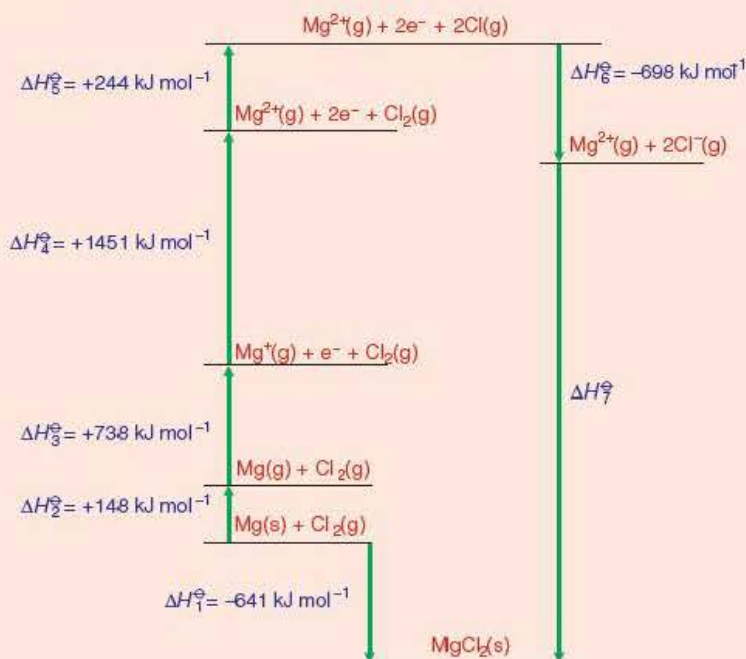

Figure 4.21 ◀
- 13 Look carefully at Figure 4.21, which is a Born-Haber cycle for magnesium chloride.